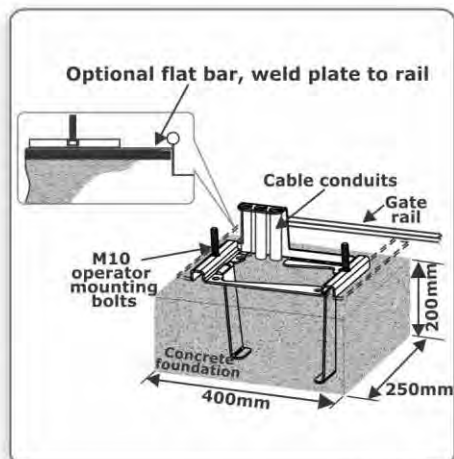
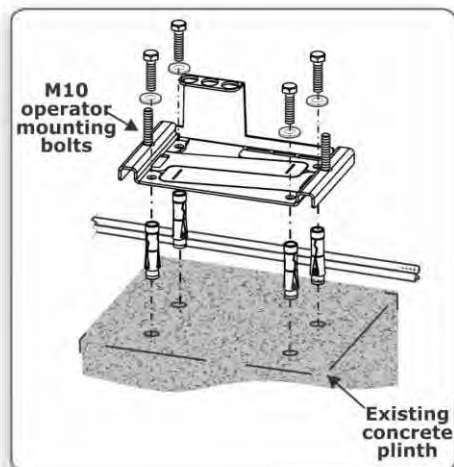

FIGURE 12
FIGURE 13
1. The foundation plate can either be set into a concrete foundation, as in Figure 12 or bolted down onto an existing concrete plinth, as in Figure 13.
When using a concrete foundation it is recommended that the foundation plate is welded to the rail/track of the gate using a short length of flat bar as shown in Figure 12. This makes it possible to complete the whole mechanical and electrical installation without having to wait for the concrete to set. After completing the installation the concrete can be poured and the operator left in manual mode until the concrete has set.